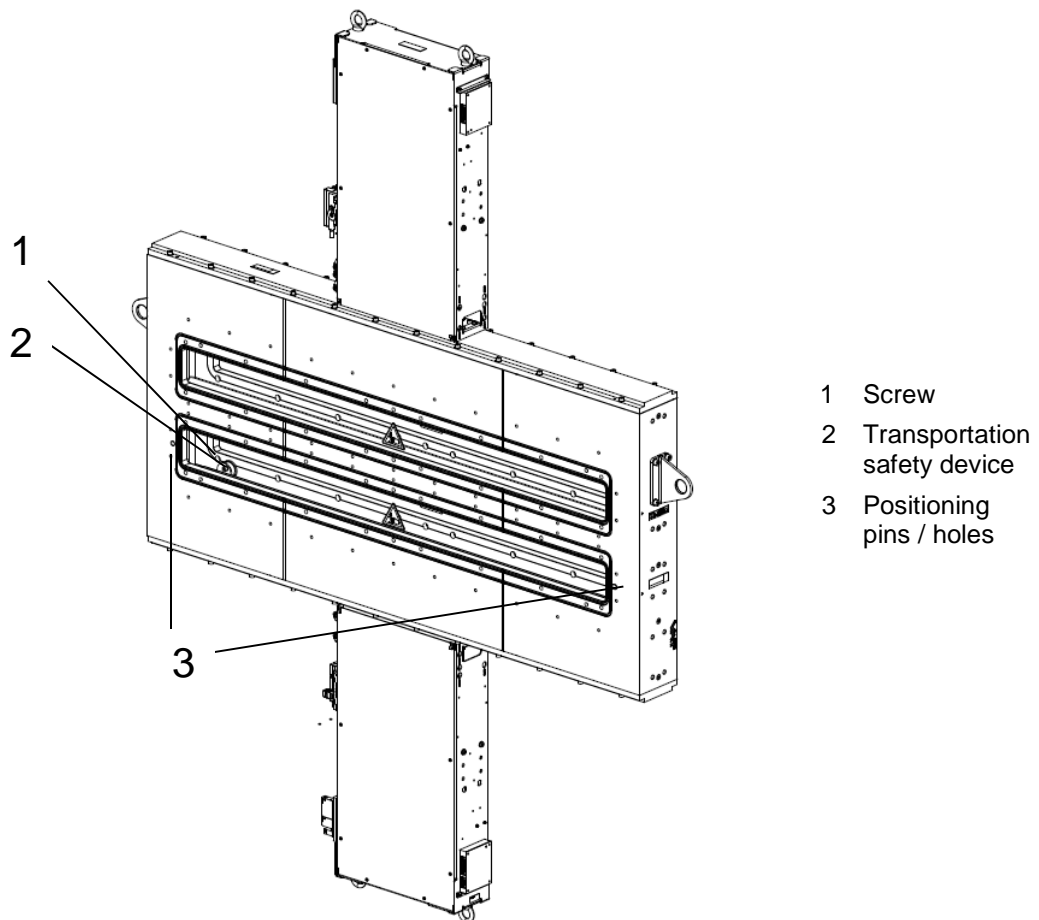

Figure 4-2
3. Remove screw (1) with an allen wrench size 6 from transportation safety devices (2) of the **upper opening**; see «Figure 4-2».
4. Remove 4 x red plastic transportation safety devices that hold the gate on its place from the **upper opening** (2); see «Figure 4-2».
6. When the valve is in upright position, remove 4x red plastic transportation safety devices that hold the gate on its place from the **lower opening** (2); see «Figure 4-2